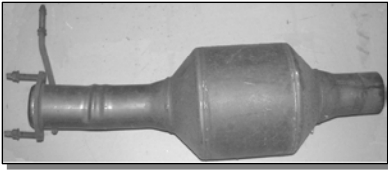

Figure 2
4. Remove the catalytic converter by removing the two nuts holding the inlet flange together using a 15mm wrench or socket. Retain the nuts for the re-installation of the catalytic converter. **See Figure 2.**